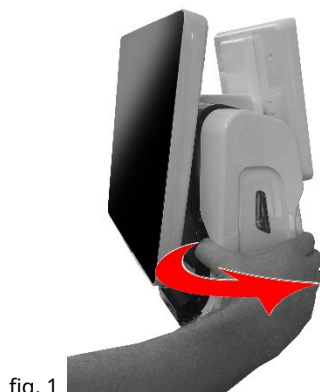

fig. 1
- Open the drawer door as shown in fig. 1